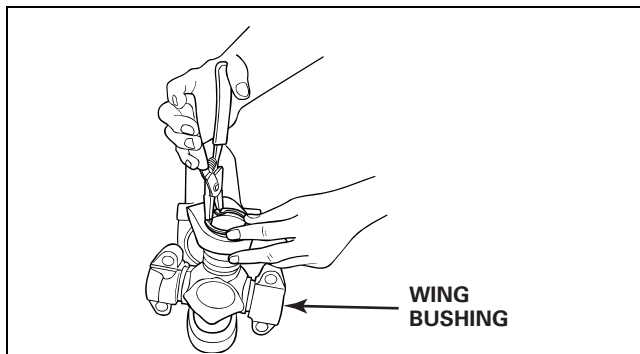

Figure 4.37
6. Use snap ring pliers to install the snap ring into the snap ring groove. Figure 4.37. Fully seat the snap ring.